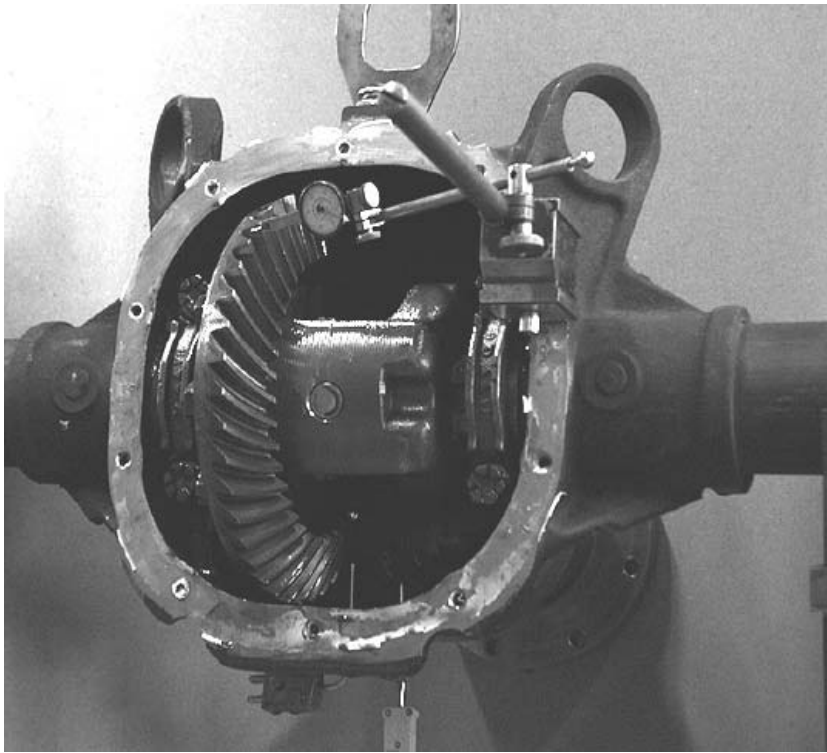

Figure 1
6. Prior to further disassembly, measure and record the ring and pinion backlash. Mount an indicator as shown in Figure 1.